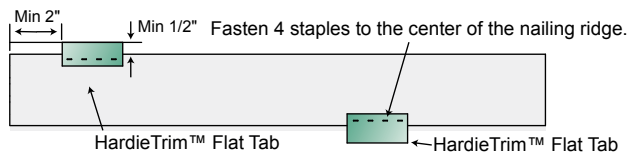

Figure 19
Step 1: Attach Flat Tabs to the back side of the trim with 4 18 ga. 1/2"L x 1/4"W narrow crown corrosion resistant staples, equally spaced in one row, positioned no closer than 1/2" from trim edges, using a pneumatic staple gun. (Figure 19)